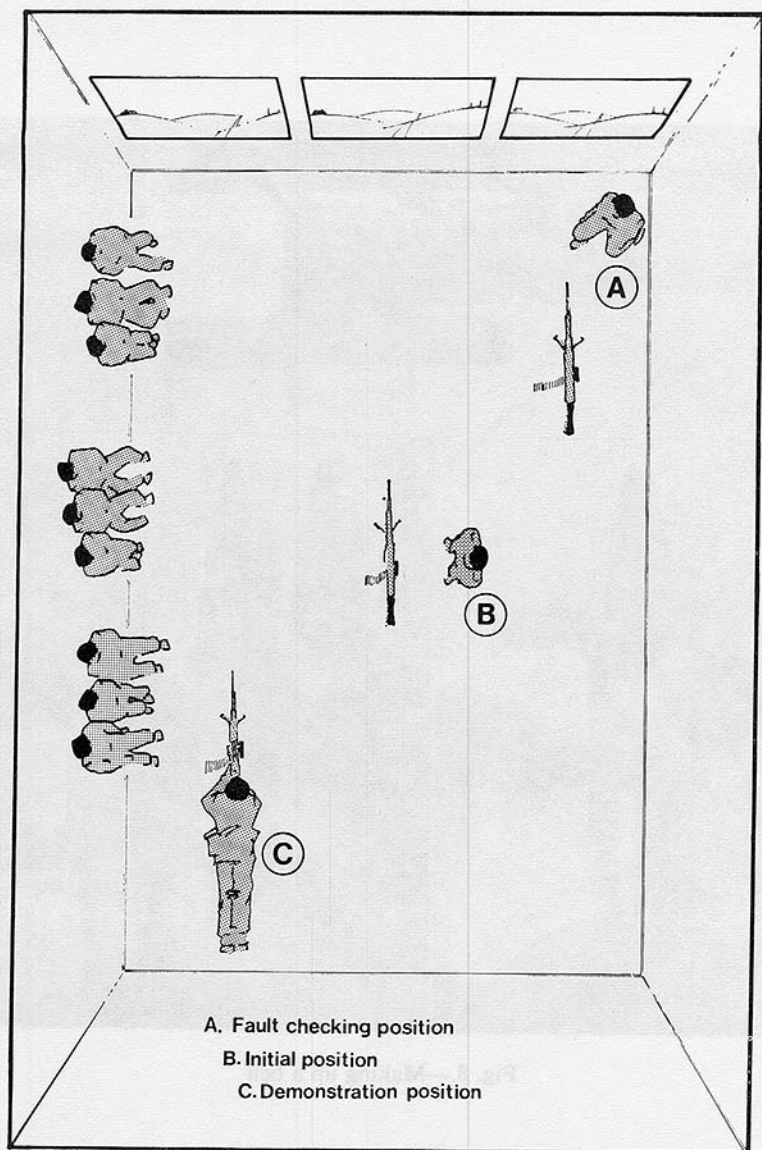

Fig. 7.—Layout of stores and weapons (common to most basic and practice periods)
- b. Lay out guns and spare parts wallets (SPW) facing the landscape targets. (See Fig. 7.)